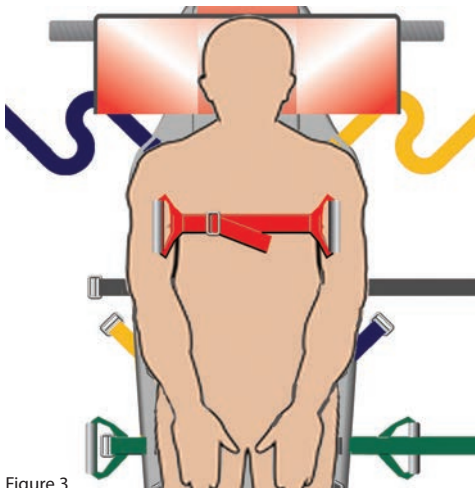

Figure 3
1. Fasten and tighten the Chest strap first. Pass the straps across the chest, keeping the casualty's arms out. The carry handles should be located under the casualty's arms as shown on Figure 3.